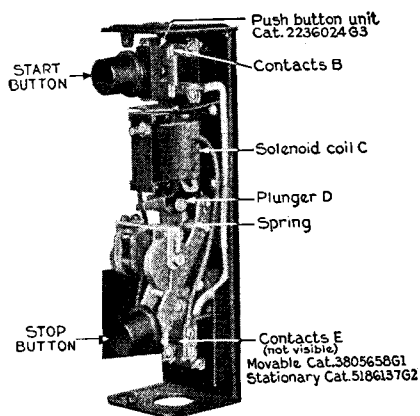

FIG. 5—PUSH-BUTTON-OPERATED TIME-DELAY MASTER SWITCH, WITH COVER REMOVED
Operating the START button closes the contacts (B), Fig. 5, and energizes the coil of the magnetic switch. The interlock on the magnetic line switch energizes the solenoid coil (C) of the master switch which lifts plunger (D) and closes the contacts at (E) which completes the holding circuit for the magnetic switch.